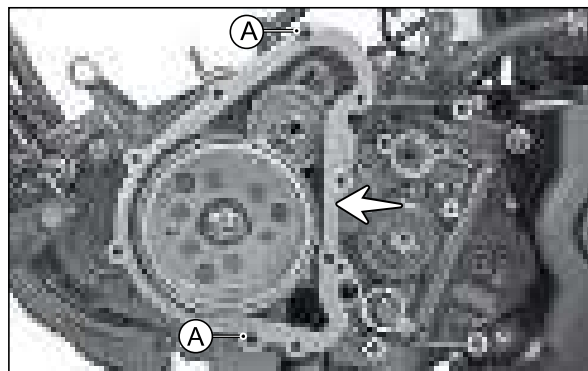

Fig. 3.116
- Take out gasket magneto cover and dowel pin (A) (2 Nos.). (Fig. 3.116)